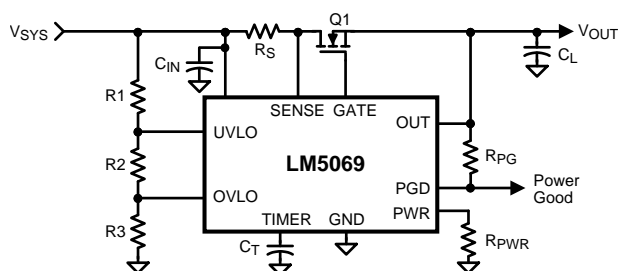
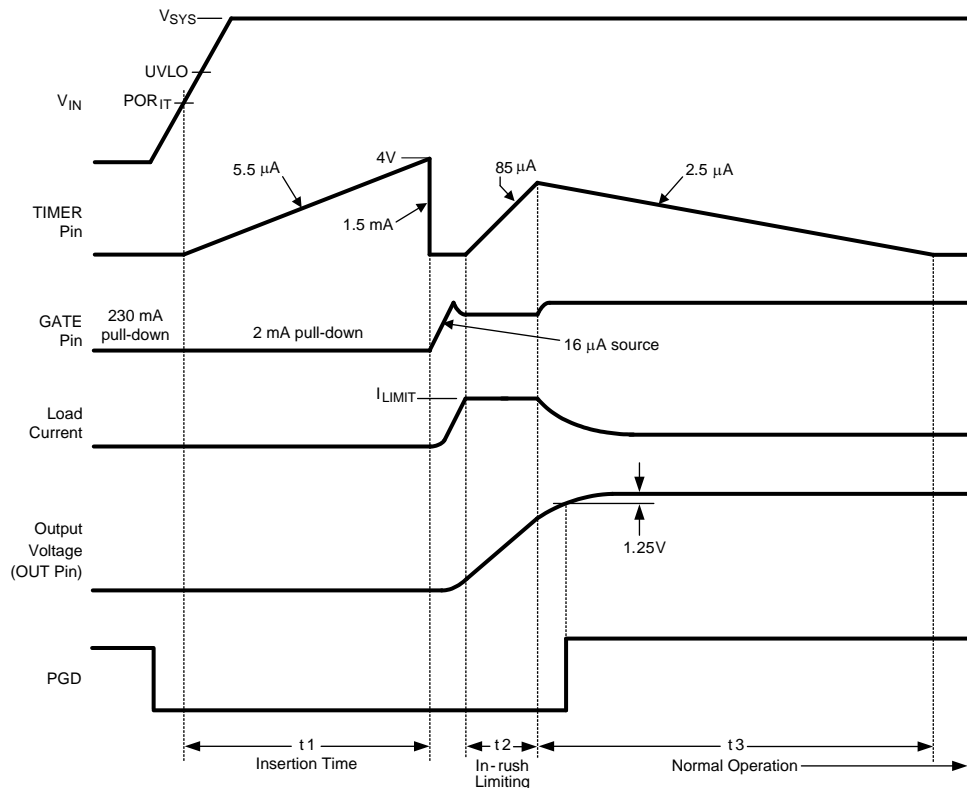

Figure 22. Basic Application Circuit
Figure 24. Power Up Sequence (Current Limit only)
The VIN operating range of the LM5069 is +9V to +80V, with a transient capability to +100V. Referring to the Block Diagram and Figure 22 and Figure 24, as the voltage at VIN initially increases, the external N-channel MOSFET (Q1) is held off by an internal 230 mA pull-down current at the GATE pin. The strong pull-down current at the GATE pin prevents an inadvertent turn-on as the MOSFET's gate-to-drain (Miller) capacitance is charged. Additionally, the TIMER pin is initially held at ground. When the VIN voltage reaches the POR_{IT} threshold (7.6V) the insertion time begins. During the insertion time, the capacitor at the TIMER pin (C_T) is charged by a 5.5 μA current source, and Q1 is held off by a 2 mA pull-down current at the GATE pin regardless of the VIN voltage. The insertion time ends when the TIMER pin voltage reaches 4.0V. C_T is then quickly discharged by an internal 1.5 mA pull-down current. After the insertion time, the LM5069 control circuitry is enabled when VIN reaches the POR_{EN} threshold (8.4V). The GATE pin then switches on Q1 when V_{SYS} exceeds the UVLO threshold (UVLO pin >2.5V). If V_{SYS} is above the UVLO threshold at the end of the insertion time, Q1 switches on at that time. The GATE pin charge pump sources 16 μA to charge Q1's gate capacitance. The maximum gate-to-source voltage of Q1 is limited by an internal 12V zener diode.
As the voltage at the OUT pin increases, the LM5069 monitors the drain current and power dissipation of MOSFET Q1. In-rush current limiting and/or power limiting circuits actively control the current delivered to the load. During the in-rush limiting interval (t_2 in Figure 24) an internal $85\ \mu\text{A}$ fault timer current source charges C_T . If Q1's power dissipation and the input current reduce below their respective limiting thresholds before the TIMER pin reaches 4.0V the $85\ \mu\text{A}$ current source is switched off, and C_T is discharged by the internal $2.5\ \mu\text{A}$ current sink (t_3 in Figure 24). The in-rush limiting interval is complete when the voltage at the OUT pin increases to within 1.25V of the input voltage (V_{SYS}), and the PGD pin switches high.
A charge pump provides internal bias voltage above the output voltage (OUT pin) to enhance the N-Channel MOSFET's gate. The gate-to-source voltage is limited by an internal 12V zener diode. During normal operating conditions (t_3 in Figure 24) the gate of Q1 is held charged by an internal $16\ \mu\text{A}$ current source to approximately 12V above OUT. If the maximum V_{GS} rating of Q1 is less than 12V, a lower voltage external zener diode must be added between the GATE and OUT pins. The external zener diode must have a forward current rating of at least 250 mA.
During the insertion time (t_1 in Figure 24) the GATE pin is held low by a 2 mA pull-down current. This maintains Q1 in the off-state until the end of t_1 , regardless of the voltage at V_{IN} or UVLO.
Following the insertion time, during t_2 in Figure 24, the gate voltage of Q1 is modulated to keep the current or power dissipation level from exceeding the programmed levels. While in the current or power limiting mode the TIMER pin capacitor is charging. If the current and power limiting cease before the TIMER pin reaches 4V the TIMER pin capacitor then discharges, and the circuit enters normal operation.
The series pass MOSFET (Q1) is enabled when the input supply voltage (V_{SYS}) is within the operating range defined by the programmable under-voltage lockout (UVLO) and over-voltage lock-out (OVLO) levels. Typically the UVLO level at V_{SYS} is set with a resistor divider (R1-R3) as shown in Figure 22. When V_{SYS} is below the UVLO level, the internal 21 μA current source at UVLO is enabled, the current source at OVLO is off, and Q1 is held off by the 2 mA pull-down current at the GATE pin. As V_{SYS} is increased, raising the voltage at UVLO above 2.5V, the 21 μA current source at UVLO is switched off, increasing the voltage at UVLO, providing hysteresis for this threshold. With the UVLO pin above 2.5V, Q1 is switched on by the 16 μA current source at the GATE pin if the insertion time delay has expired (Figure 24). See the Applications Section for a procedure to calculate the values of the threshold setting resistors (R1-R3). The minimum possible UVLO level at V_{SYS} can be set by connecting the UVLO pin to VIN. In this case Q1 is enabled when the VIN voltage reaches the POR_{EN} threshold.
(REFER TO Figure 22)
A) Insertion Delay - Upon applying the system voltage (V_{SYS}) to the circuit, the external MOSFET (Q1) is held off during the insertion time (t_1 in Figure 24) to allow ringing and transients at V_{SYS} to settle. Since each backplane's response to a circuit card plug-in is unique, the worst case settling time must be determined for each application. The insertion time starts when V_{IN} reaches the POR_{IT} threshold, at which time the internal $5.5 \mu\text{A}$ current source charges C_T from 0V to 4.0V. The required capacitor value is calculated from: